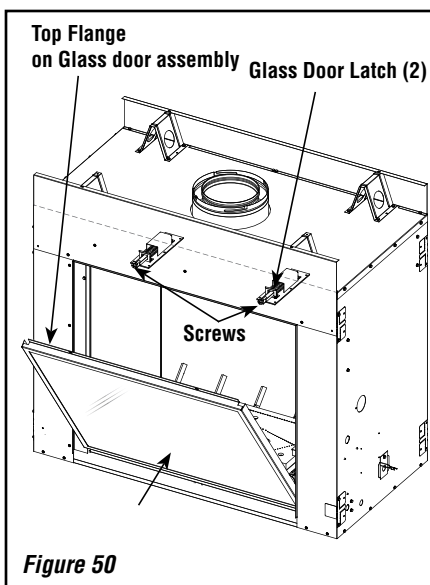

Figure 50
- b) Position the door in front of the firebox opening, with the top of the door held away from the fireplace (see **Figure 50**).
- d) Using a #3 Phillips screwdriver, fasten the door frame to the door latches with the two (2) latch screws. The latches should pull forward to engage the door frame.
- a) See **Figure 50**. While holding the top of the glass door frame in place, use a #3 Phillips screwdriver to remove the two (2) screws securing the door frame to the two (2) door latches.